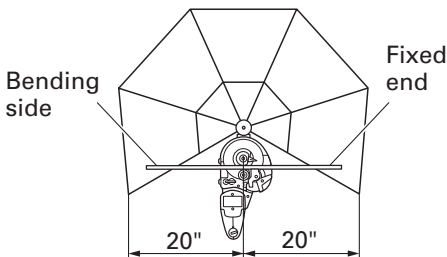

Fig. 19
- (1) Be sure to install the deflection guard when bending a rebar whose bending length and the fixed length are 20" (inside dimension of deflection guard) or less (Fig. 19)